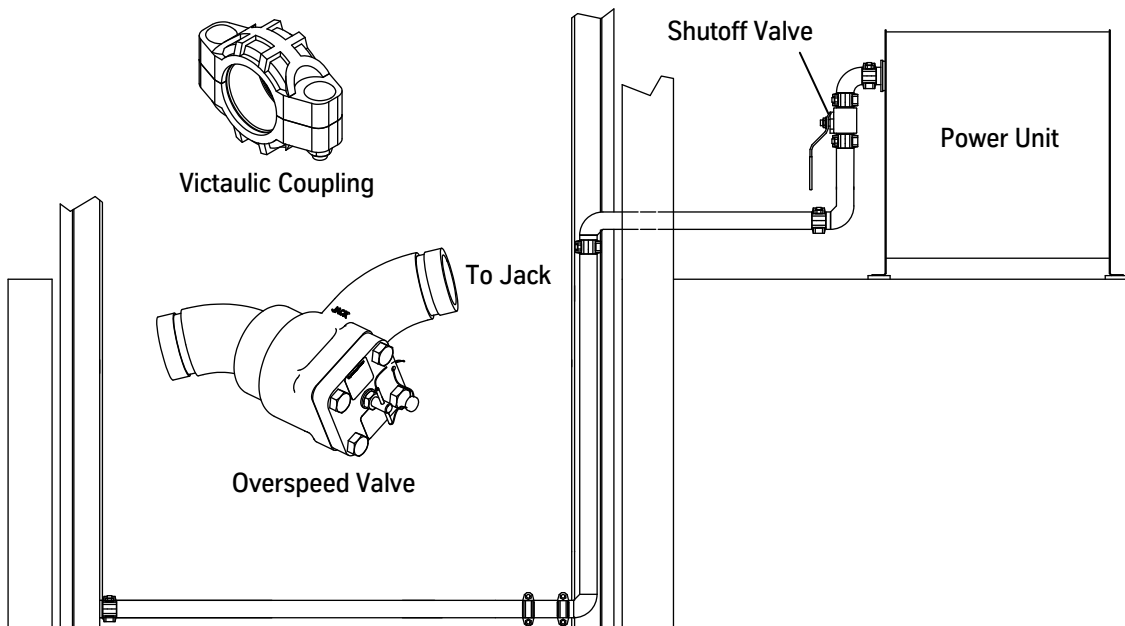
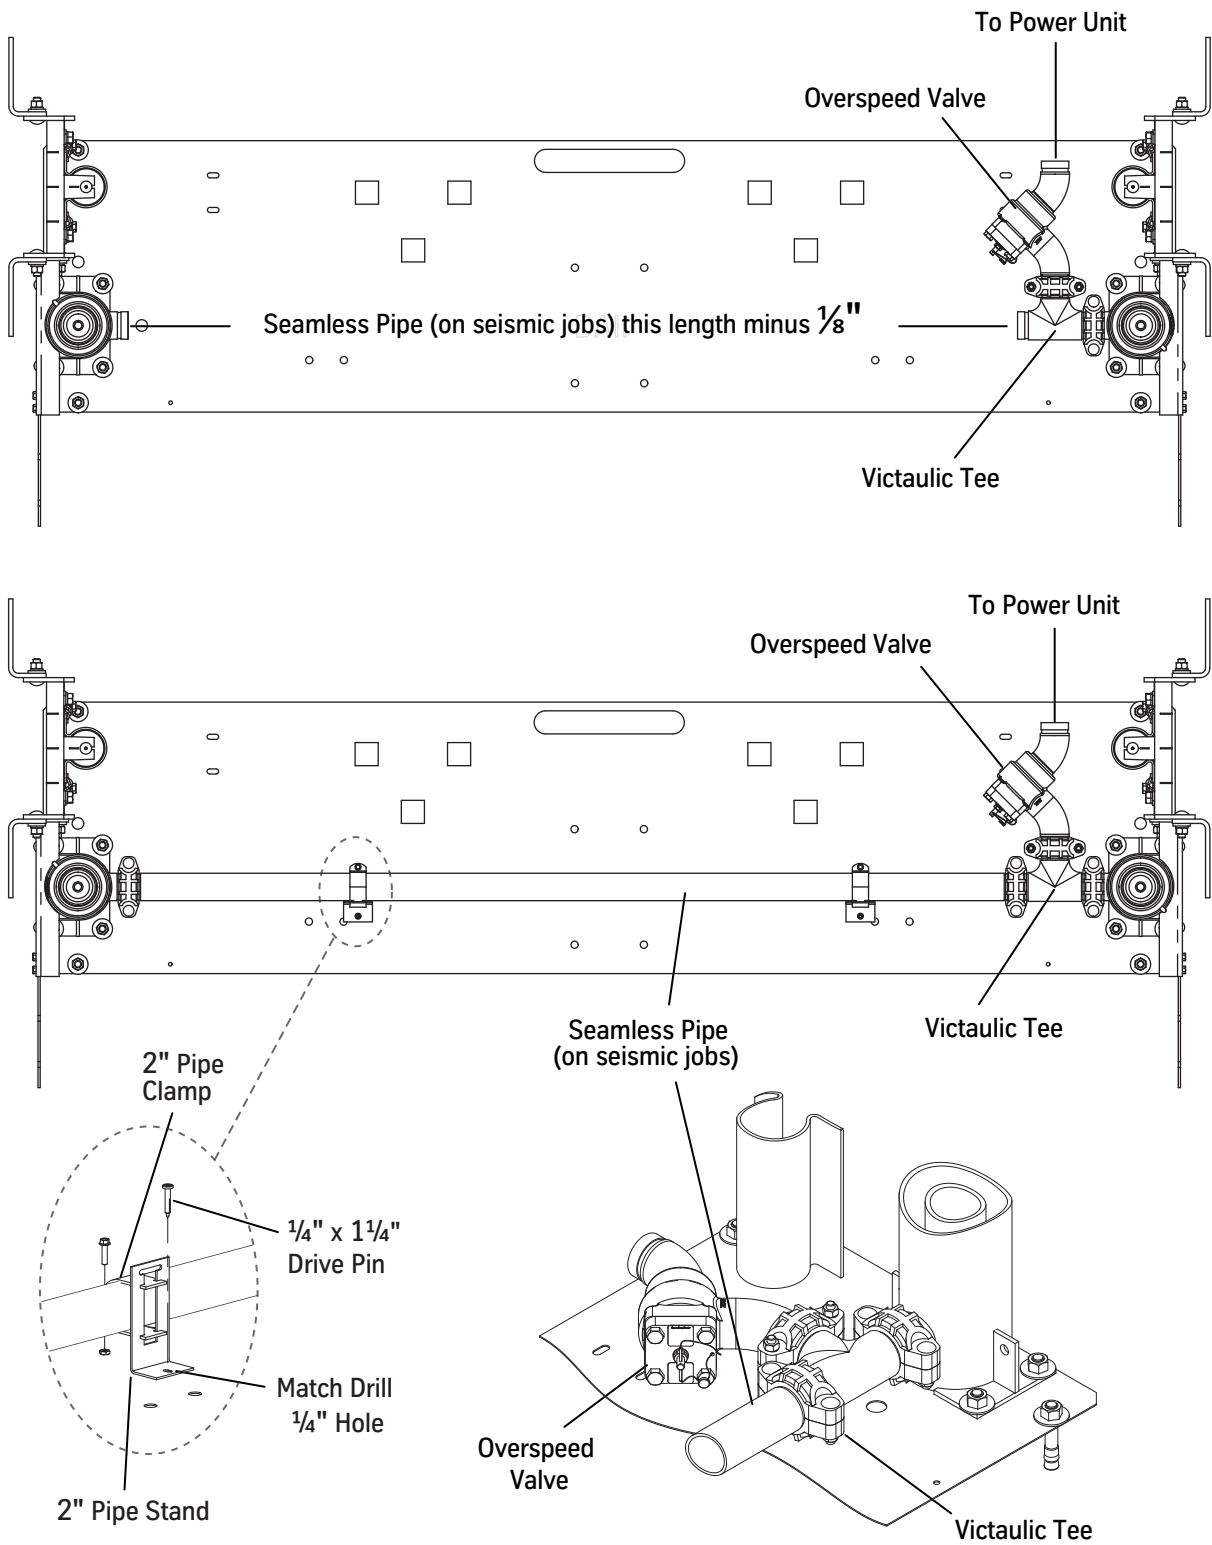

Figure 6 - Piping Installation from the Jack to the Power Unit
Figure 7 - Piping Between the Jacks
2. Start installation with the jack that is nearest to the oil line that enters the hoistway, and install the Victaulic tee on that jack. See Figure 6 below and Figure 7 on page 17.